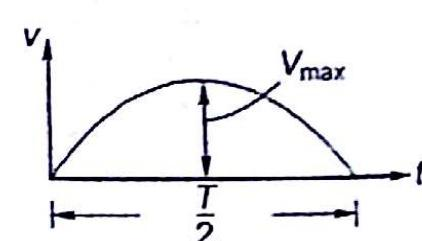

Fig. 10.7
10.2 The $v-t$ diagram of a particle is given by a parabola of equation $v = at + bt^2$ as shown in Fig. 10.7. If $v_{\max} = 4 \text{ m/s}$ and $T = 6 \text{ s}$, determine distance travelled upto the time $t = \frac{T}{4}$.